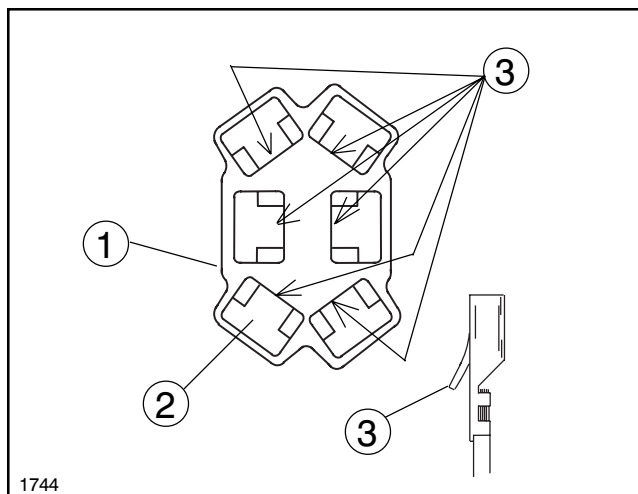

FIG. 17
11. To use the standard harness for the Sonic Boom Kit on the Multi Pro® 1250 the harness must be modified to mate with the three (3) Rocker Switches provided. Refer to steps a thru d and illustrations for this procedure.
b. Remove the wires/terminals from the 6-pin connectors using a small flat tip screw driver. Insert the tip of the screwdriver into a socket of the Connector from the side opposite of where the wires go in and on the side where the metal Tang of terminal locks into the connector. See FIG 17. Press the Tang back completely and pull the wire/terminal from the socket.